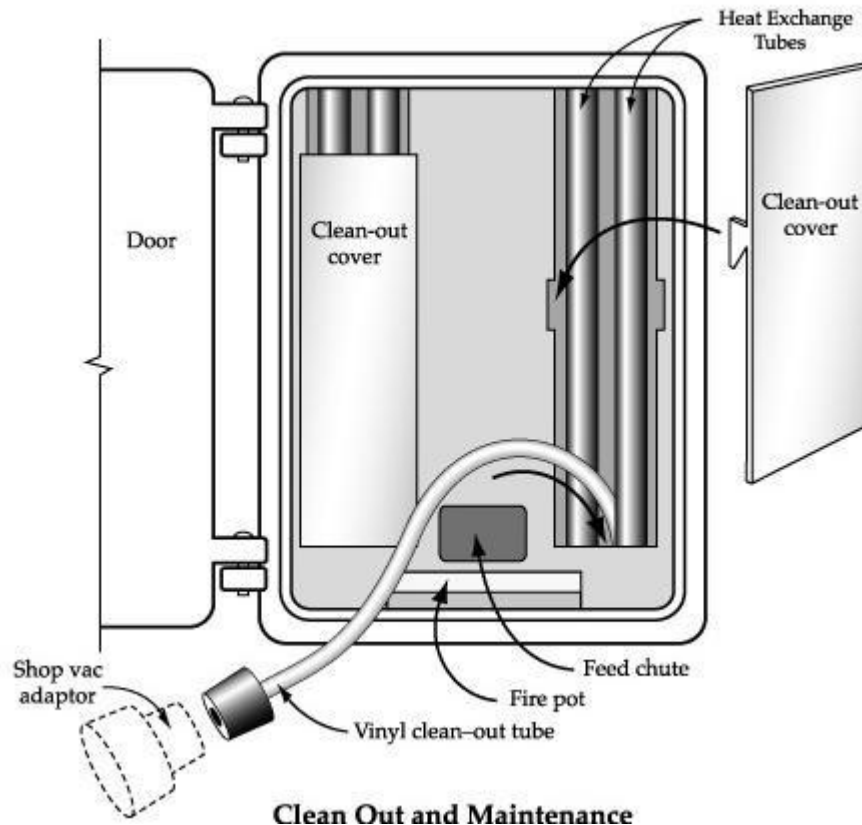

FIGURE 13
2. Remove the two rear left and right clean out covers and clean with a wire brush. See **Figure 13**.